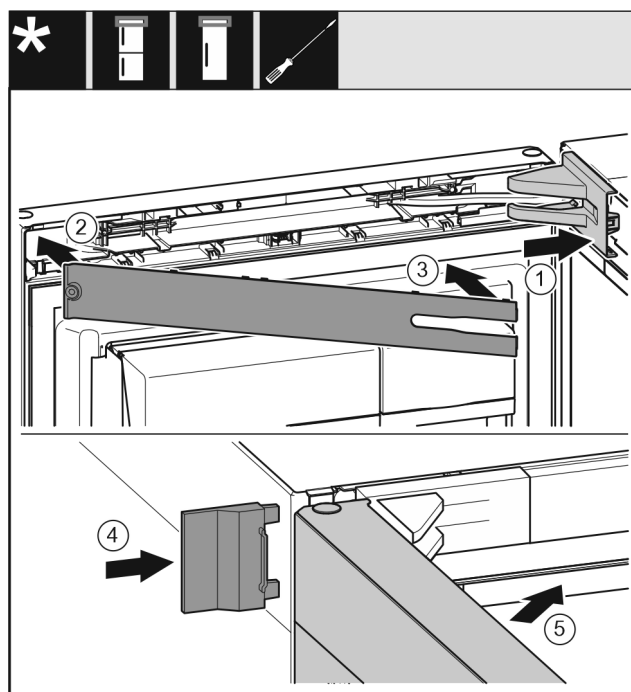

Fig. 24
- ▶ Position the swap bearing block cover *Fig. 24 (1)* and snap it in. You may need to push it carefully apart.
- ▶ Attach the cover *Fig. 24 (2)*.
- ▶ Swivel in the faceplate *Fig. 24 (3)* and snap it on.
- ▶ Slide on the outer cover *Fig. 24 (4)*.
- ▶ Close the top door *Fig. 24 (5)*.